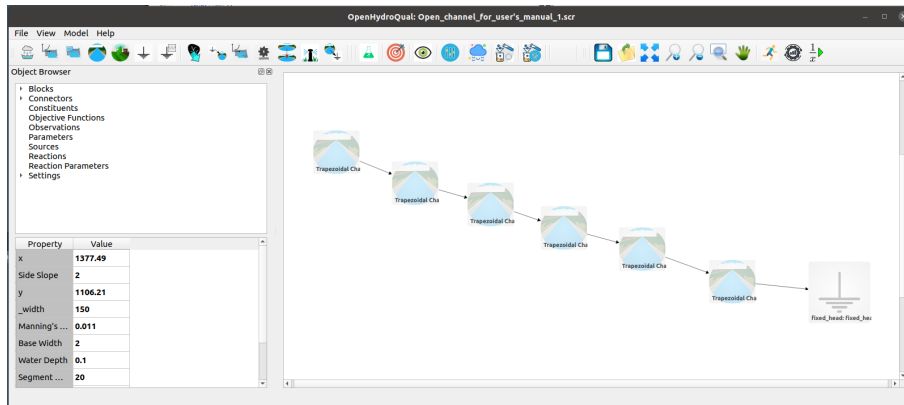

Figure 4: Screenshot of the GUI after adding the downstream boundary
11. **Connect the most downstream block to the fixed-head block:** Select the "Link from a channel segment to fixed head boundary"  from the components toolbar and then connect the "Trapezoidal Channel Segment (6)" to the fixed-head block. Your screen should look like figure 4.